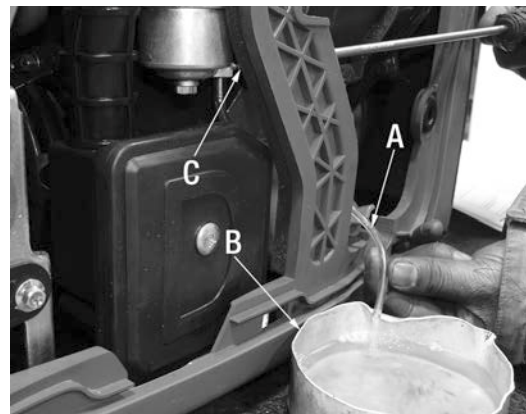

Figure 12
- 3) Place carburetor drain pipe (A) Fig.12 over a drain container (B), make sure the drain container can hold up to 350ml.
- 4) Unscrew the fuel tank cap, then unscrew the spring loaded carburetor screw (C) using a phillips screwdriver. This will drain the fuel from the tank and the carburetor. Retighten the carburetor screw once the fuel is completely drained.